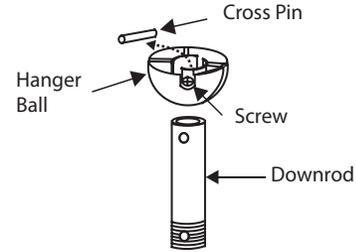

FIGURE 8
1. Take out the screw located in the hanger ball, lower the hanger ball and remove the cross pin. Remove the hanger ball from the hanger ball/ downrod assembly (Fig. 8).